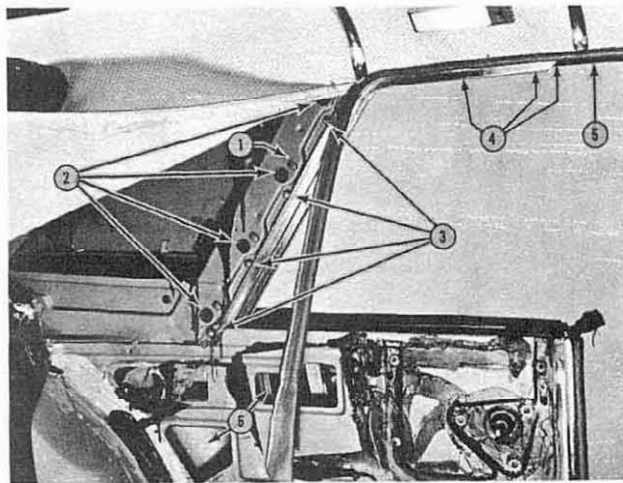

FIG. 92
5. Remove the small hex head sheet metal retaining screws (4) that attach the vertical section of the headlining retainer to the quarter panel, and remove the vertical headliner retainer.
6. Remove the vertical section of the windlace from the quarter panel windlace retaining tabs (1, Fig. 92).
7. Remove the sealing tape from over the access holes in the inner top panel (2).
8. Remove the (4) 'T' bolt nuts that retain the run assembly to the inner top panel. (3).
9. Working through the inner top panel access holes (2) remove the 4 Phillips head screws that retain the run assembly to the outer top panel reinforcement.
10. Remove the (3) upper run retaining screws that attach the run assembly to the top panel (4).
11. Remove sealing tape from over the rear access hole in the inner quarter panel (6), loosen rear quarter